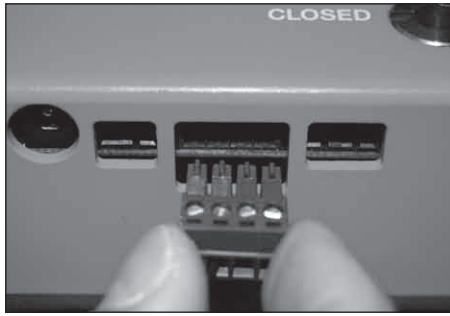

Figure 7
2. Remove the green circuit board terminal strip from the Control Unit by pulling straight out on the terminal strip. **Figure 7**